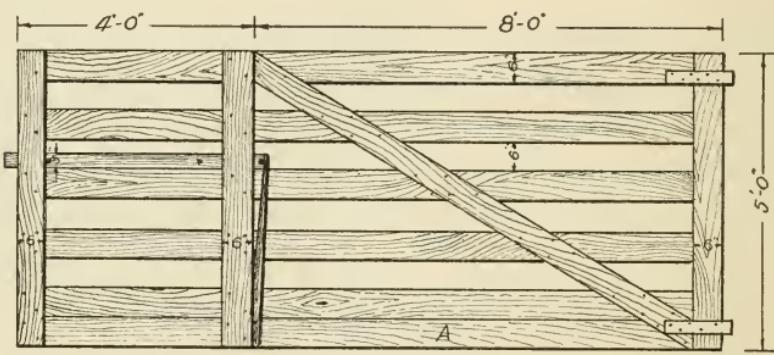

FIG. 97.—FARM GATE.
2. Nailing gate together. — Lay five of the 12' boards 6" apart on the floor. Lay the sixth board against the edge of the fifth. (See *A*, Fig. 97.) Lay one upright across each end; and drive one nail through the uprights into the end of each board properly spaced, with the end of the boards flush with the edge of the upright. An easy and satisfactory method